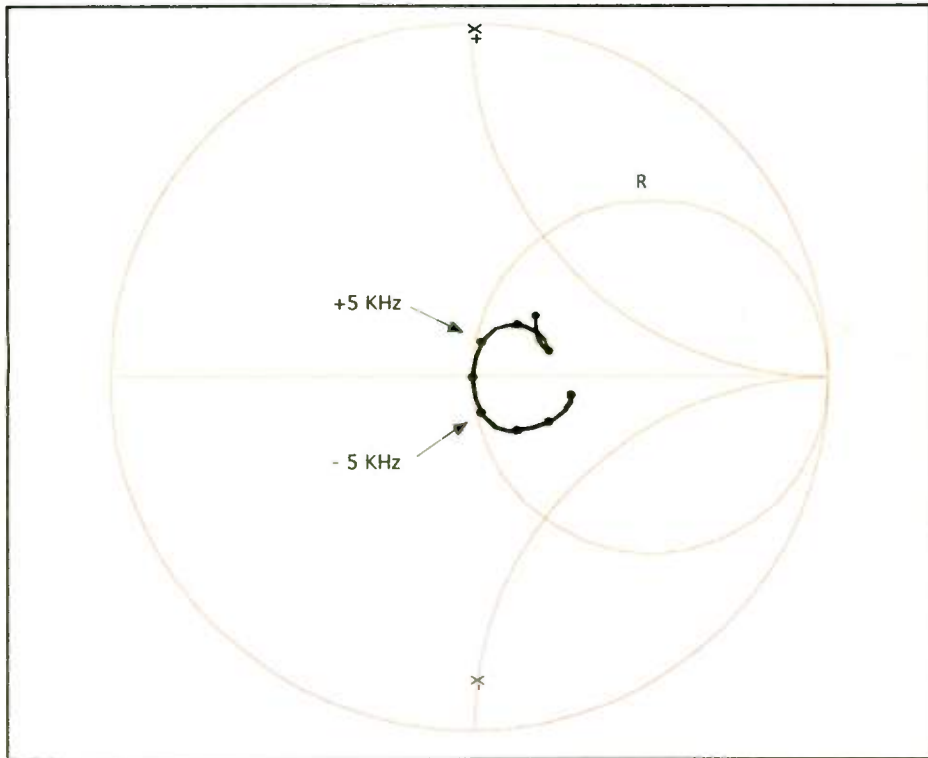

Fig. 19: Final Amplifier Symmetry at +/- 5 kHz
a. ± 5 kHz — symmetry of the load impedance presented to the final RF amplifier within the transmitter such that the VSWR calculated for one sideband impedance, when normalized to the complex conjugate of the corresponding sideband impedance on the other side of carrier frequency, does not exceed 1.035:1 (see Fig. 19).